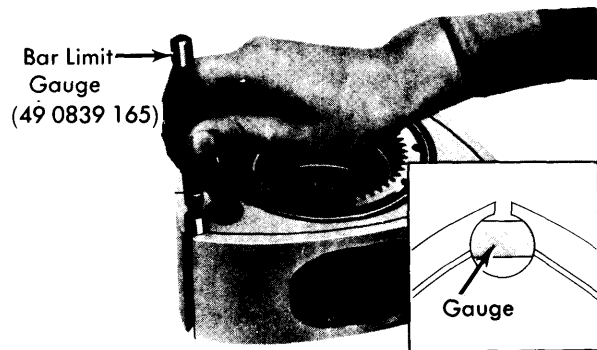

Fig. 17 Checking Corner Seal Groove Measurement
**"Go" End of Gauge Goes Into Groove** – Indicates that gap is more than standard, but less than wear limit. In this case replace corner seal, (Fig. 17).